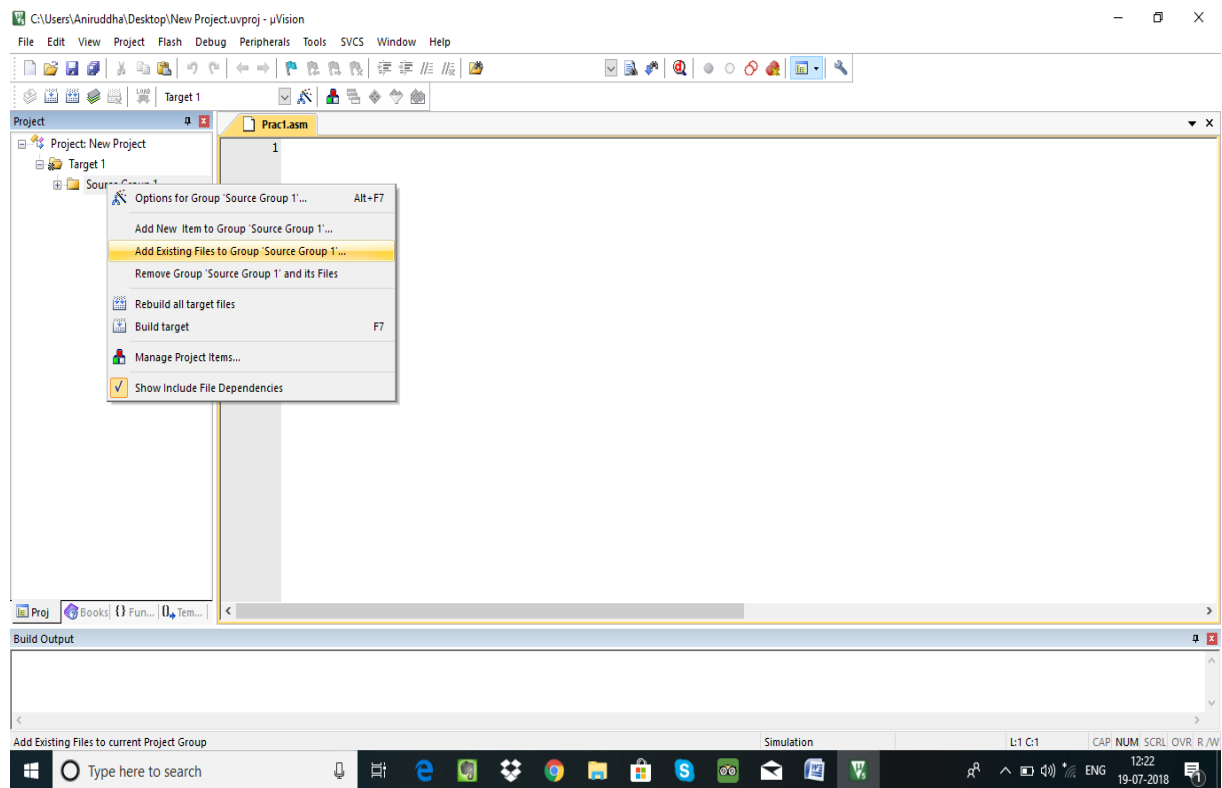

Figure. 11
2. On left hand project work space window will display Target 1 and source group 1. Right click on source group; Select Add files to source group 1. Fig. 11